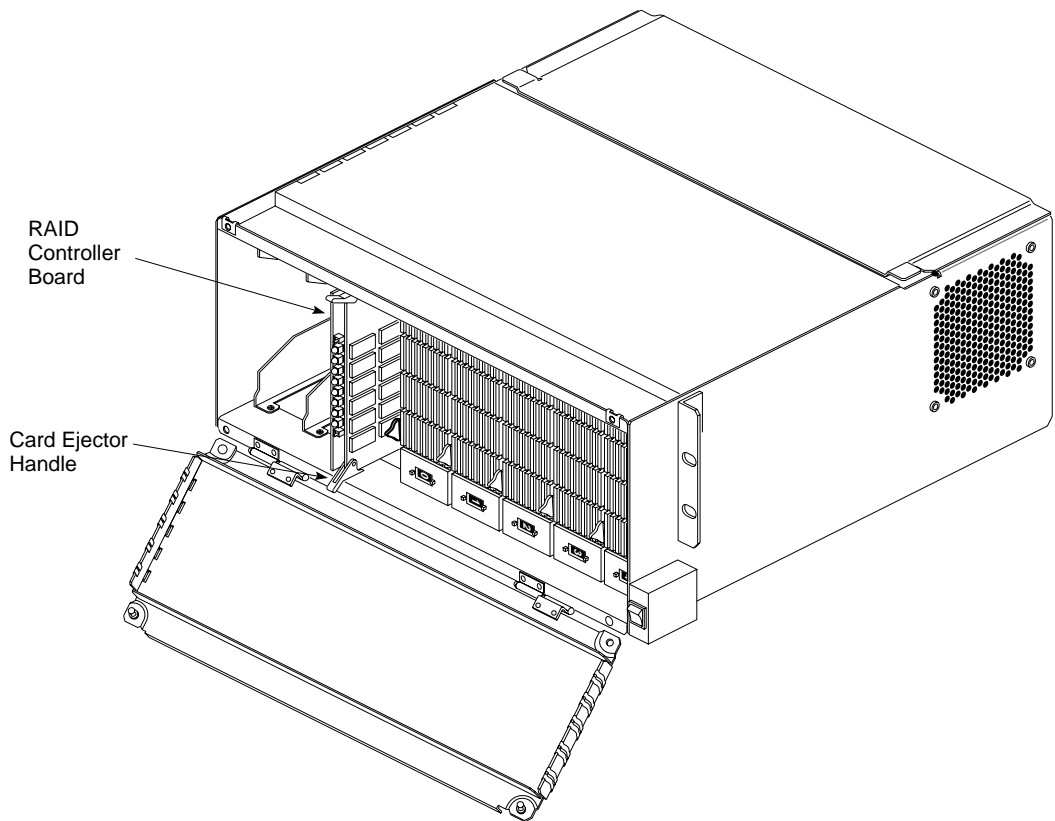

Figure 3-7 Replacing the RAID Controller
3. Align the controller's boards in the two plastic guides and slide the controller assembly back into the RAID box until it seats firmly in the connector. See Figure 3-7.